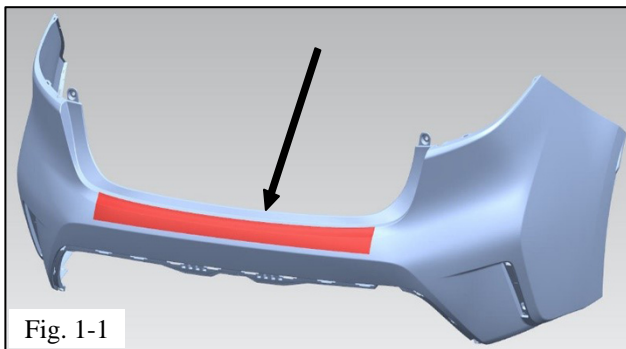

Fig. 1-1
- (d) Use VDC approved cleaner on a clean lint free cloth and scrub the top surface of the rear bumper (Fig. 1-1).